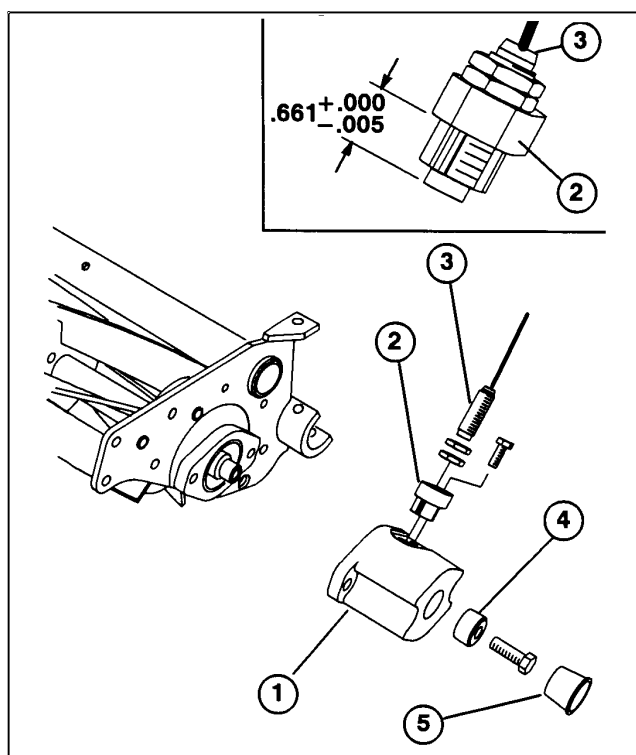

Figure 36
1. Thread reel speed sensor into sensor holder until dimension shown in Figure 36 is attained. Lock adjustment with two (2) jam nuts.